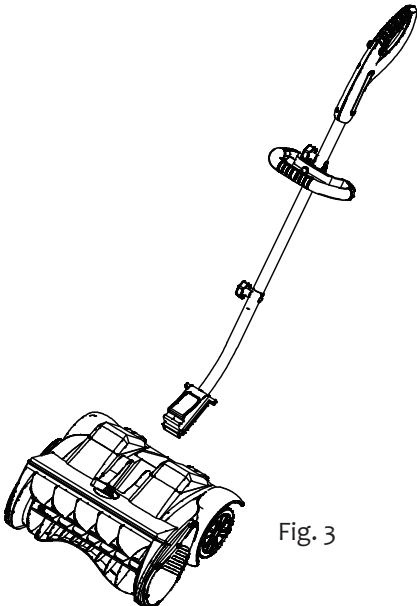

Fig. 3
5. Align the tube with the groove in the middle of the shovel head and insert the tube (Fig.3).